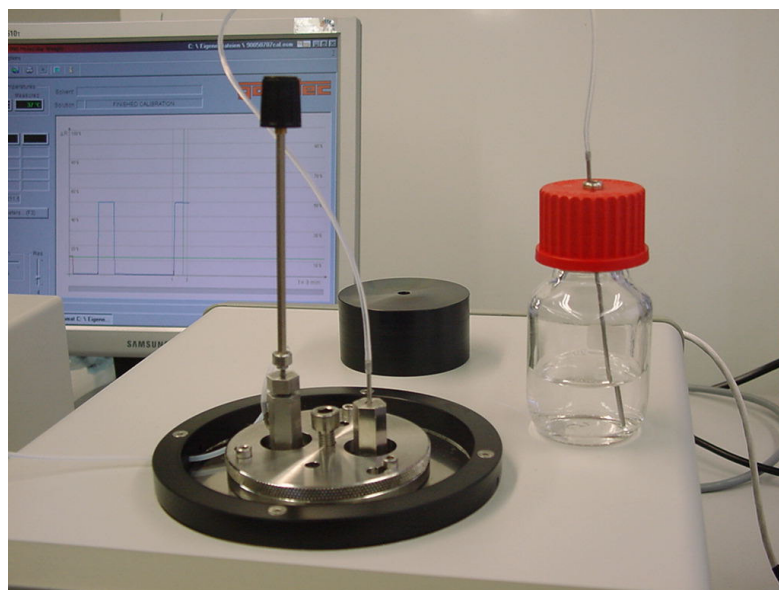

Figure 4-1
For calibration, the inlet funnel (15) is replaced by the stopper with a tube (see Fig. 4-1) and the suction bottle B (2) is replaced by the calibration bottle. The calibration bottle (25) is filled at least halfway with the solvent.